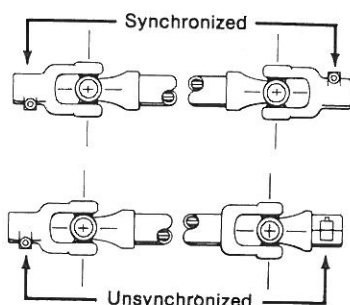

Figure 5
- Make sure tumbling bar (coupling shaft) is assembled with its universal joint knuckles "synchronized," as illustrated in Figure 5. If knuckles are not synchronized, the bar will chatter when rotating, which will cause the generator output voltage to fluctuate and can also cause tumbling bar failure or shortened generator life.
Check the generator gear case oil level before each use of the generator. Maintain the oil level at oil level plug height. Figure 5 illustrates oil level plug location. The generator is shipped with lubricant in the gear case. Specifications for gear case lubricant are:
Use the following procedure to change generator gear case oil. (See Figure 5).